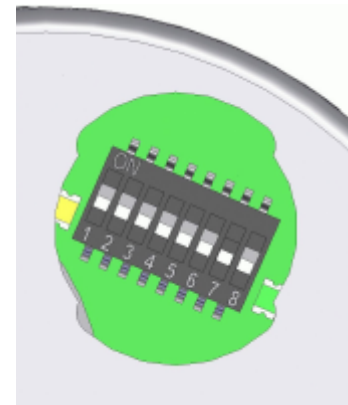

Fig. 2: DIP switches and diagnosis LEDs
**NOTE: If the numerical value 7FFFFFFFh is read out as the position value, this indicates that the encoder-internal CAN controller was unable to establish the connection to the basic encoder card! Possible causes are: 1) the DIP switch 1 (see figure 2, chapter 6.1) is not at the ON position or 2) contact problems of this switch prevent communication of the CAN controller with the basic card.**